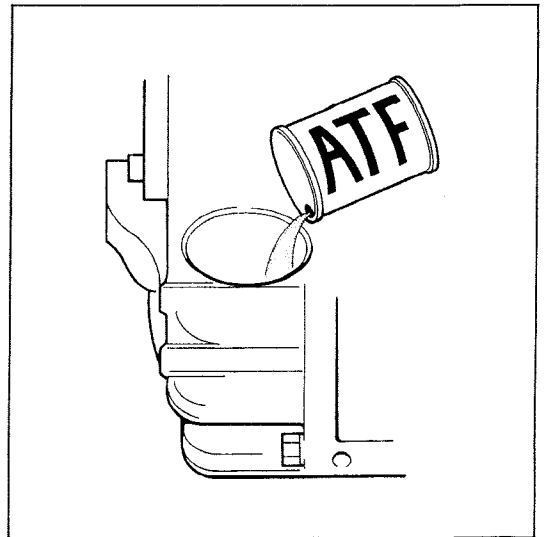

Figure 6
4. Fill with 3.5 liters (0.92 US gallon) of Automatic Transmission Fluid (ATF) Figure 6.